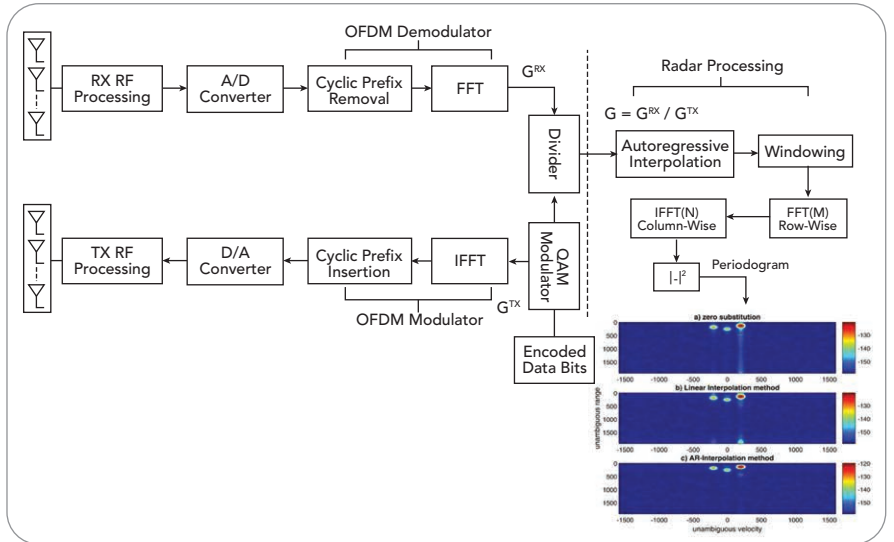

Fig. 3 Example of sensing functionality by reusing 5G NR waveforms.
Figure 3 illustrates an example of an ISAC system that utilizes 5G New Radio (NR) waveforms for both communication and sensing functions. In this example, the 5G NR OFDM waveform is post-processed to extract relative range, Doppler and direction information of the hypothetical targets in the environment.